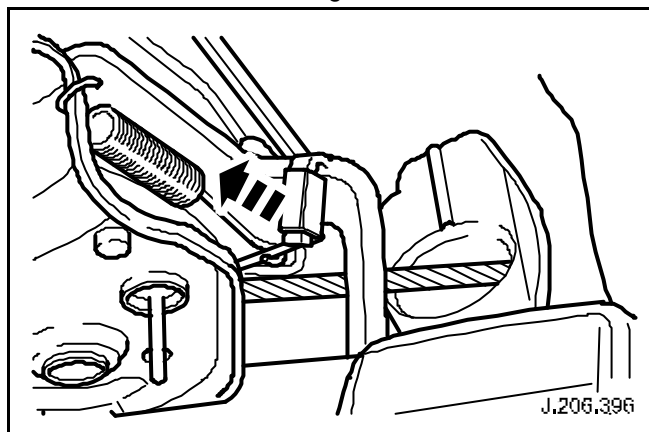

Fig. 7
- 12 If the stroke of the cable is less than the specified amount, bend clutch spring stop and clip slightly upwards away from the clutch spring until the correct value has been attained. (See Fig. 7)